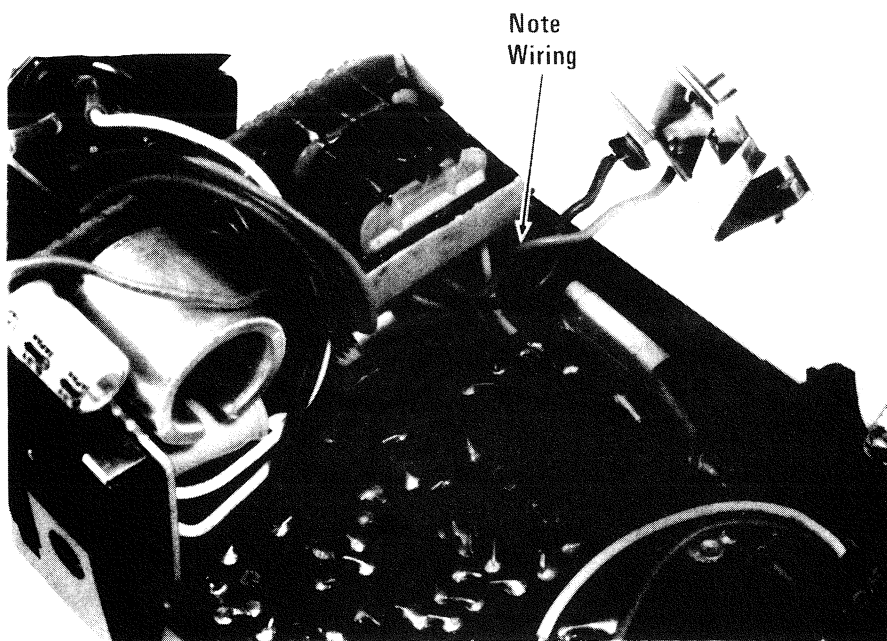

Figure 3-20. Installing PC Boards B and C
- D. When replacing PC boards B and C, make certain that wires have not been pinched between the boards and the case before installing screws. Fig. 3-20.